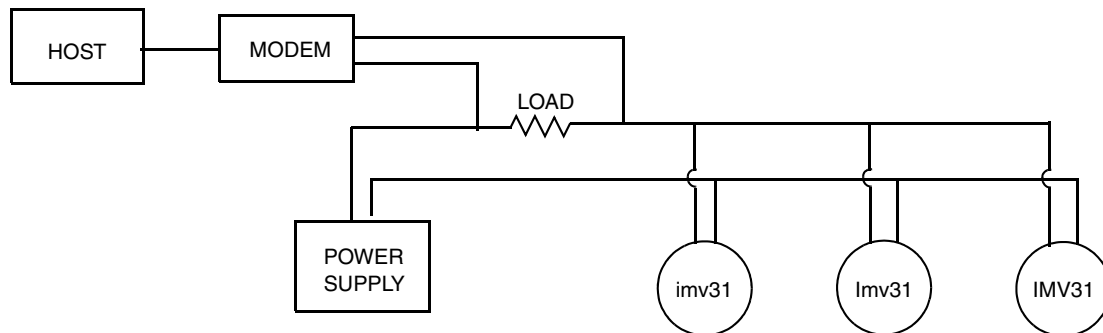

Figure 11. Typical Multidrop Network
Figure 11 shows a typical multidrop network. Do **not** use this figure as an installation diagram. Contact the HART Communications Foundation, (512) 794-0369, with specific requirements for multidrop applications.